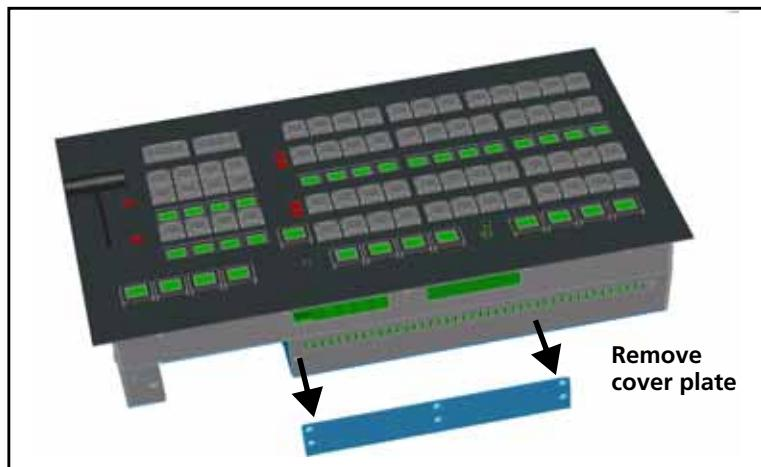

Figure 2-4 Removal of the Main Control Panel Cover Plate
- 3 Remove the cover plate from the back of the main control panel (see Figure 2-4).